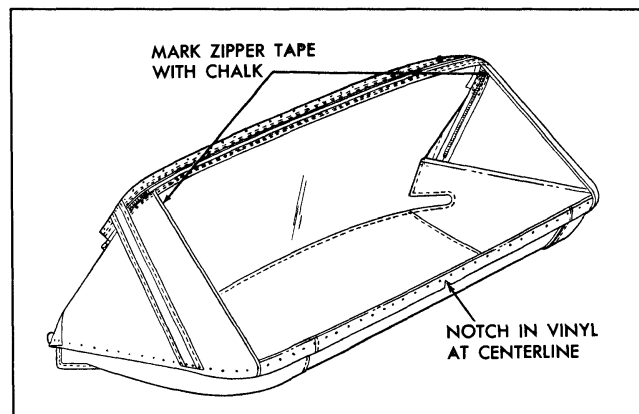

Fig. 22-55 Marking Zipper Tape
14. Using chalk or similar material, mark zipper tape at upper edge of vinyl (Fig. 22-55).